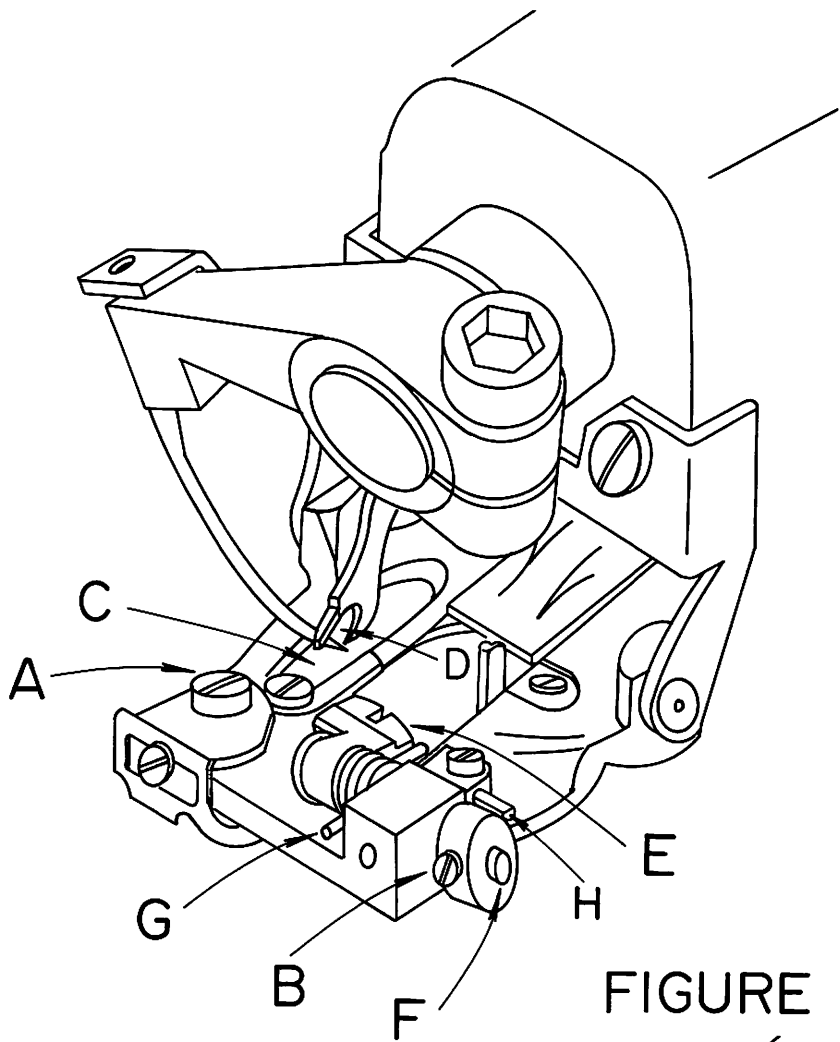

FIGURE 8
6. Once the looper is timed with respect to the needle as outlined in paragraphs 2 thru 5 above, slowly turn the handwheel in a direction away from the operator, until the looper approaches the edge of the looper slot. (Point "C" in Figure 8) in the presserfoot. At this point make sure the small prong of the looper clears this edge. If it does not clear, adjust the eccentric block as outlined in paragraph 5 until the interference is eliminated.
7. Continue turning the handwheel away from the operator until the point of the needle starts to enter the area in between the looper prongs. (Refer to Point "D" in Figure 8). If the needle strikes the crotch of the looper, the looper has generally been set too far forward. Check to see if the looper has been inserted into the clamp as far as it will go. It should be inserted until the shoulder on the looper is stopped on the clamp. If this check is satisfactory, recheck the distance from the center of the looper rod fork pin to the rear face of the looper rod ball. Refer to paragraph 4 and reset if necessary. If neither of the above two measures corrects the problem, it is possible that the needle lever may be set too low and required adjustment.
1. The shoe, (item “E” in Figure 8), also known as a cloth retainer, normally will not require replacement. However, in the event of wear due to the particular fabrics being used, or if the shoe or spring suffers any damage, they may be readily replaced.
2. The first step is to remove the complete front guide assembly by unscrewing the front guide holder attaching screw (item “A” in Figure 8). Next loosen the shoe pin and the shoe eccentric barrel lock screws, (item “B” Figure 8), and slide out the shoe pin (item “F”), shoe and retaining spring (item “G”). Before removing these components it is advisable to note the manner in which the spring is assembled so that it may be reinstalled in the same way.
3. When replacing an old shoe, make sure that the replacement shoe properly fits the pin without binding and without excessive looseness. In the event that the pin has worn and does not fit the new shoe properly, it should be replaced at the same time as the shoe-pin. After replacing the shoe, shoe pin spring into shoe eccentric barrel, re-tighten screws (item "B" Figure 8), and check to insure that the center of the shoe is lined up with the center of the rib. Also insure that the shoe clears both sides of the opening of the presserfoot.
4. In and out position of shoe should now be checked. For light fabrics, shoe should be as close to needle as possible. For heavy fabrics with seam, shoe should be set back as far as possible from needle. To move shoe in and out turn eccentric barrel (item "I" Figure 8). After the correct location is established, be sure to tighten screws, (item "B" Figure 8).
- 4A. An additional shoe adjustment is also possible. The height of the shoe can now be controlled, (item "H" in Figure 8). This is a tapered pin and position can be adjusted so that the shoe, whenever required, can be controlled as far as elevation is concerned. By moving the tapered pin in or out the shoe can be kept from pressing down on some fabrics which require little, if any shoe pressure. By having this control, it sometimes will aid in penetration of difficult fabrics. The normal position of the shoe, when set properly on most fabrics, is that the shoe will show movement on the penetration cycle on one ply of fabric.